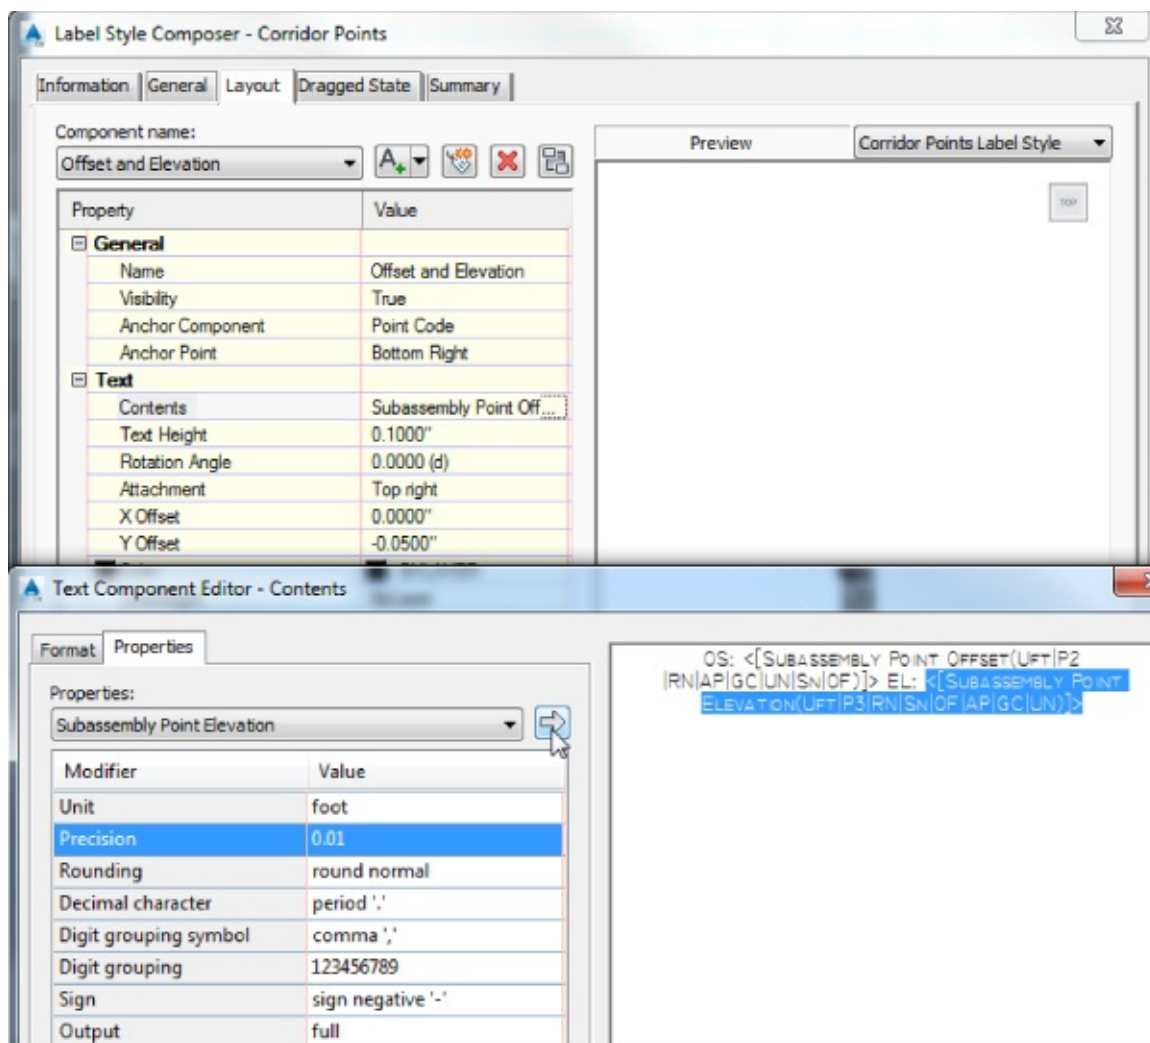

Figure 18.58 Content Editor for the Corridor Points label
17. In the right pane of the Contents editor, modify the text before the Subassembly Point Offset to show **OS:** and a space and the text before the Subassembly Point Elevation to **EL:** and a space. Also eliminate the comma in between the two components. (See Figure 18.58 for the layout of items needed in the contents.)